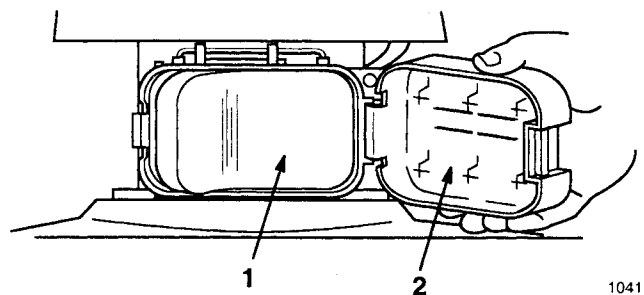

Figure 18
1. To remove air filter, snap cover latch open, swing to side and unhook (Fig. 18).